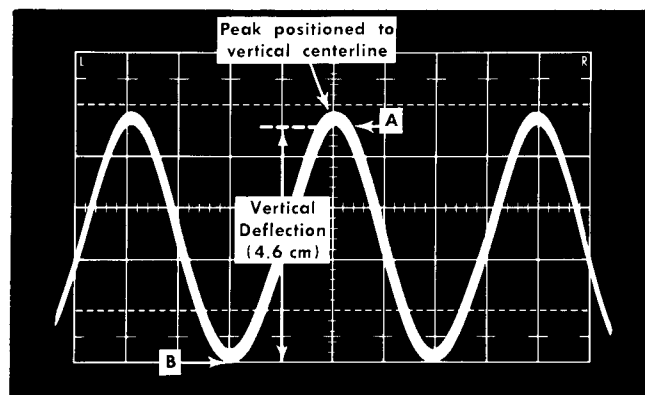

Fig. 3-1. Measuring peak-to-peak voltage of a waveform.
position the waveform so that the negative peaks coincide with one of the lower graticule lines and one of the positive peaks lies near the graticule center vertical line (see Fig. 3-1).
In measuring signal amplitudes, the width of the trace may be an appreciable part of the overall measurement. To make the measurement as accurate as possible, measure from one side of the trace. Notice in Fig. 3-1 that points (A) and (B) correspond to the bottom side of the trace. The measurement would be just as accurate if points (A) and (B) correspond to the top side or center of the trace.
Example. Assume a peak-to-peak vertical deflection of 4.6 cm (see Fig. 3-1) when using a 10× attenuator probe and a V/CM switch setting of .5.